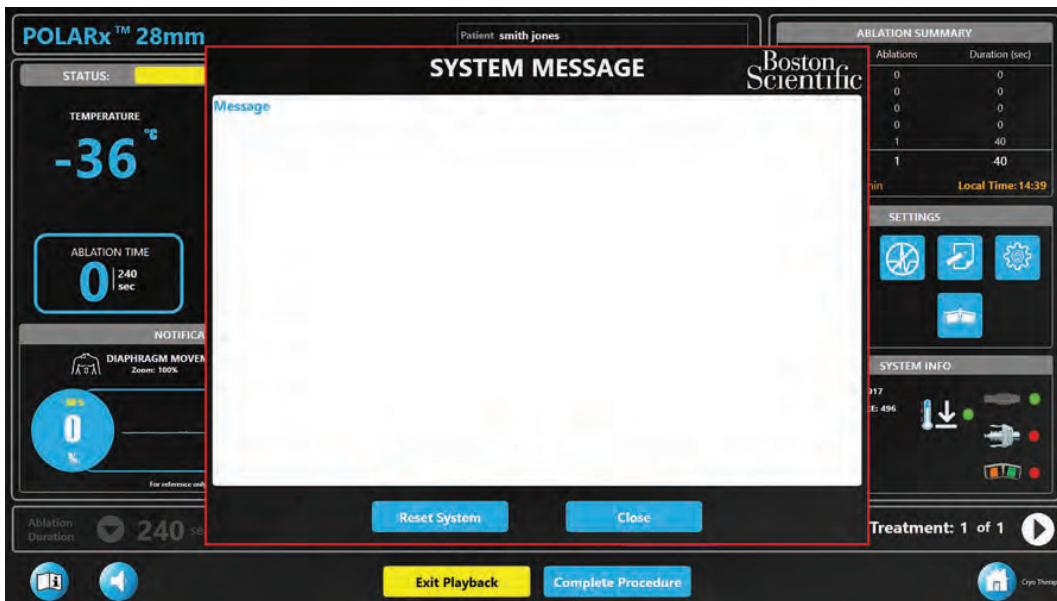

Figure 22. Cleared System Message
- Press the **Close** button to close the **System Message** window (see Figure 22).